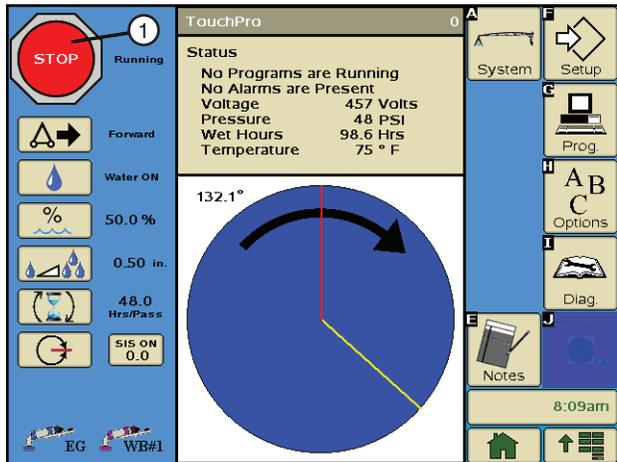

Figure 50-2 1. Stop Button
1. Push the Stop button. See Figure 50-2.